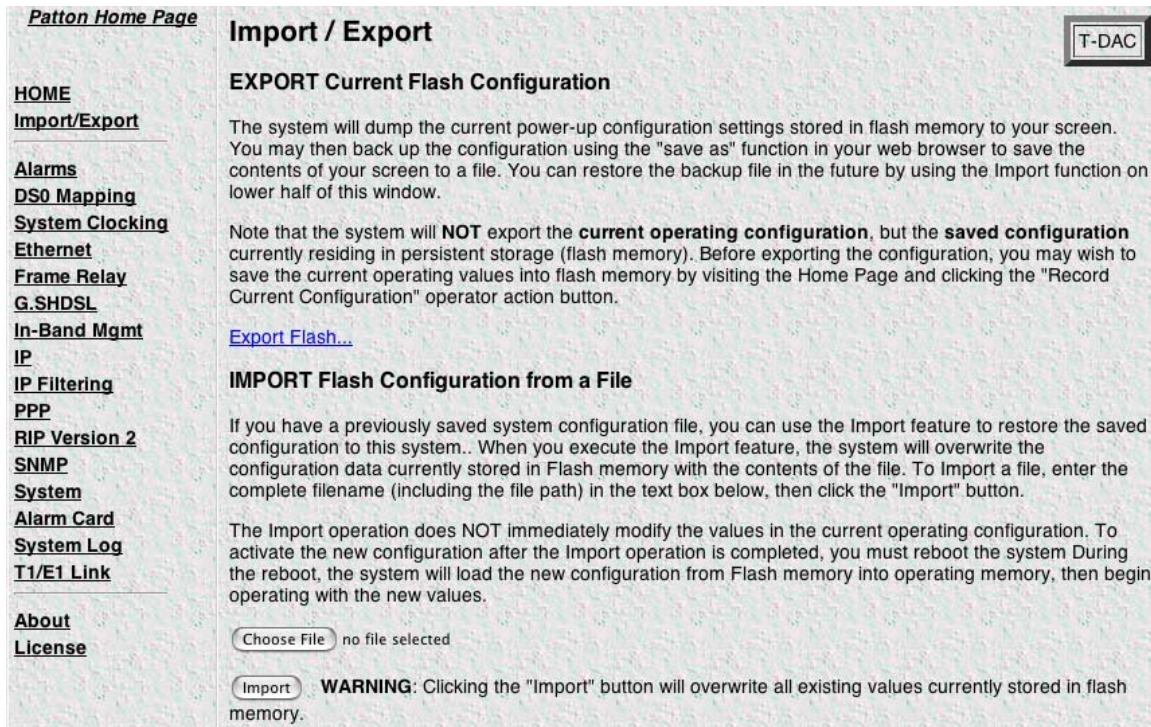

Figure 52. IMPORT/EXPORT page
1. On the Configuration Menu pane, click the *Import/Export* hyperlink to display the IMPORT/EXPORT page (see figure 52).